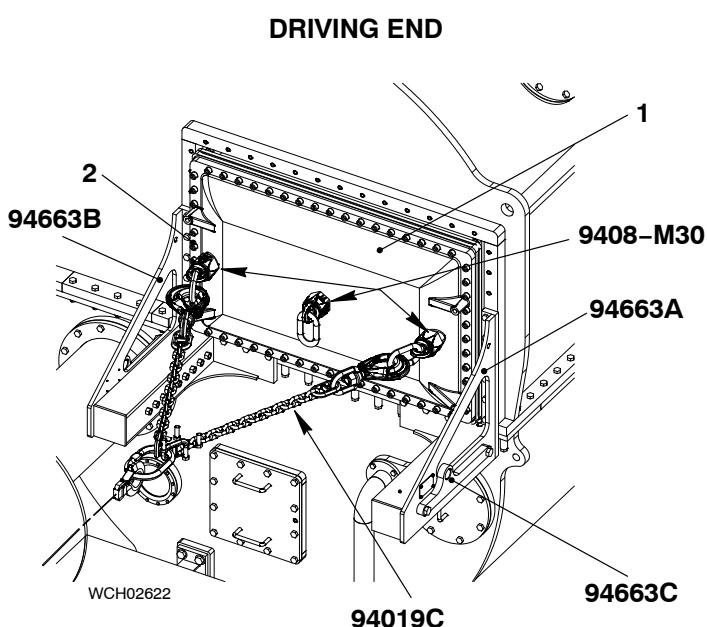

Fig. 3
- 11) At the driving end, attach the three lugs (94048-M30) to the SAC (1, Fig. 3).
- 12) Attach the left and right supports (94663A, 94663B) to the receiver with the screws (2).
- 13) Torque the screws (2) to 136 Nm.